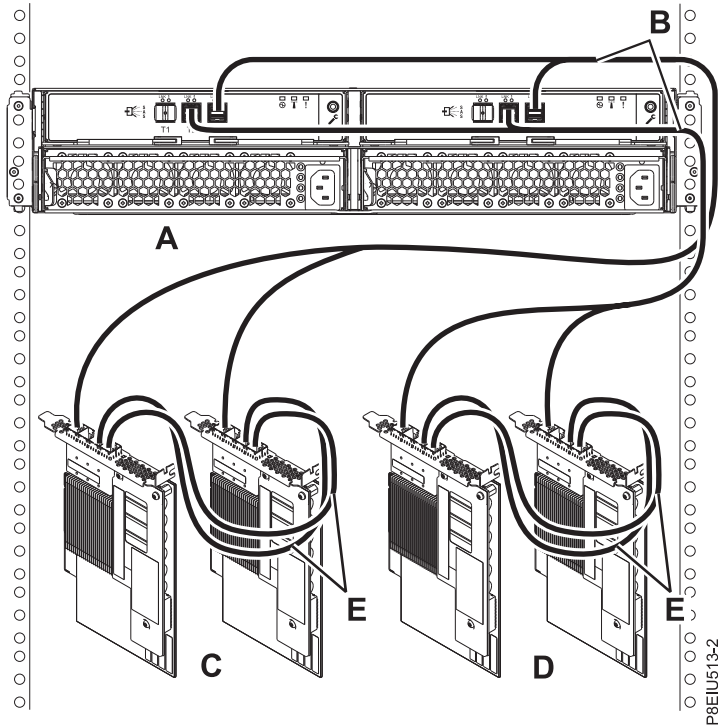

Figure 19. Mode 2 connection of one ESLS by using X12 cables to two FC EJ0L SAS adapter pairs or two FC EJ14 SAS adapter pairs with AA cables
- Complete a mode 2 connection of one enclosure (A) by using X12 cables (B) to two FC EJ0L SAS adapter pairs or two FC EJ14 SAS adapter pairs (C, D) with AA cables (E), as shown in Figure 19 on page 20, and then continue with “Connecting cables, power cords, and installing covers” on page 22.
- Each adapter in the SAS adapter pair 1 (C) has access to the other adapter in pair 1 and to drive bays D1 - D12.
- Each adapter in the SAS adapter pair 2 (D) has access to the other adapter in pair 2 and to drive bays D13 - D24.